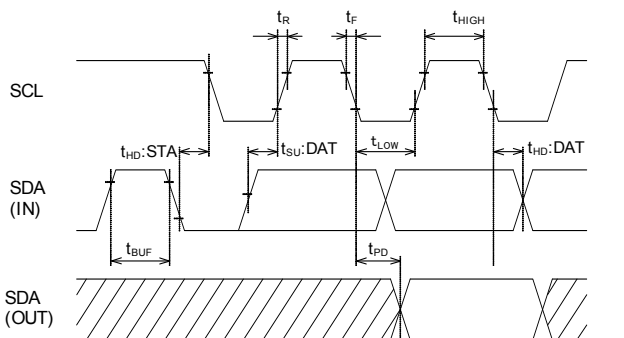

Fig.3 Synchronous Data Timing
- (See Fig. 3 Synchronous Data Timing)
- (See Fig.3 Synchronous Data Timing)